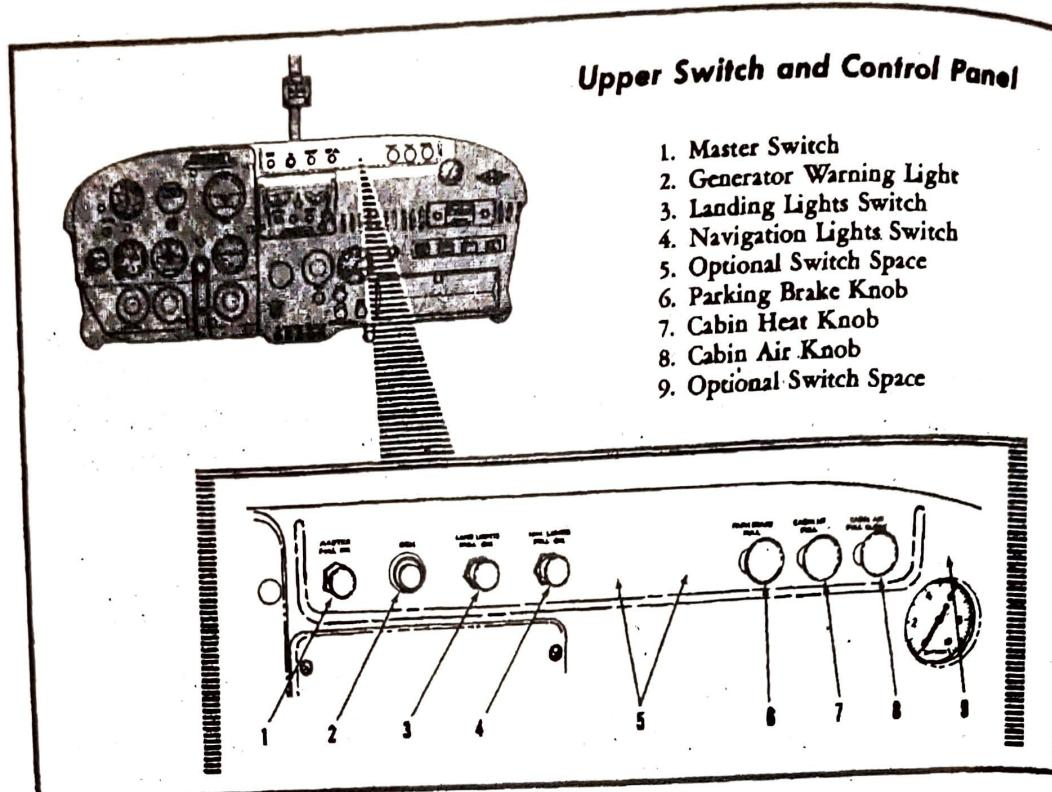

Figure 2.
6. Upper Switch and Control Panel (Figure 2)
The master switch (figure 2) is the extreme left switch on the upper switch and control panel. Switch positions are "ON" (out position) and "OFF" (in position). When the master switch is turned "ON", a solenoid switch is energized and the electrical power of the battery is admitted into the electrical system. In event of a short or malfunctioning of the airplane electrical system, the master switch may be turned off and the engine will continue to run on the magneto ignition system.
A generator warning light (figure 2) is located just to the right of the master switch and is labeled "GEN". This red warning light is an indication of generator output. The light will remain off at all times when the generator is functioning properly. The light will not show drainage on the battery. It will illuminate when the battery or external power is turned on prior to starting the engine or when there is insufficient engine RPM to produce generator current.